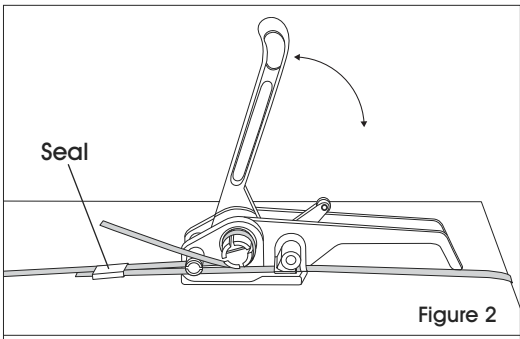

Figure 2
1. Move tension lever forward and back to begin tensioning. (See Figure 2)
1. Seal should be placed open side down on top of both ends of strapping. (See Figure 2)